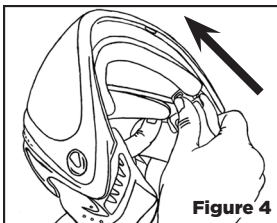

Figure 4
- 1 The gray retention clips should be in the forward position prior to installing the lens. [See Figure 4]